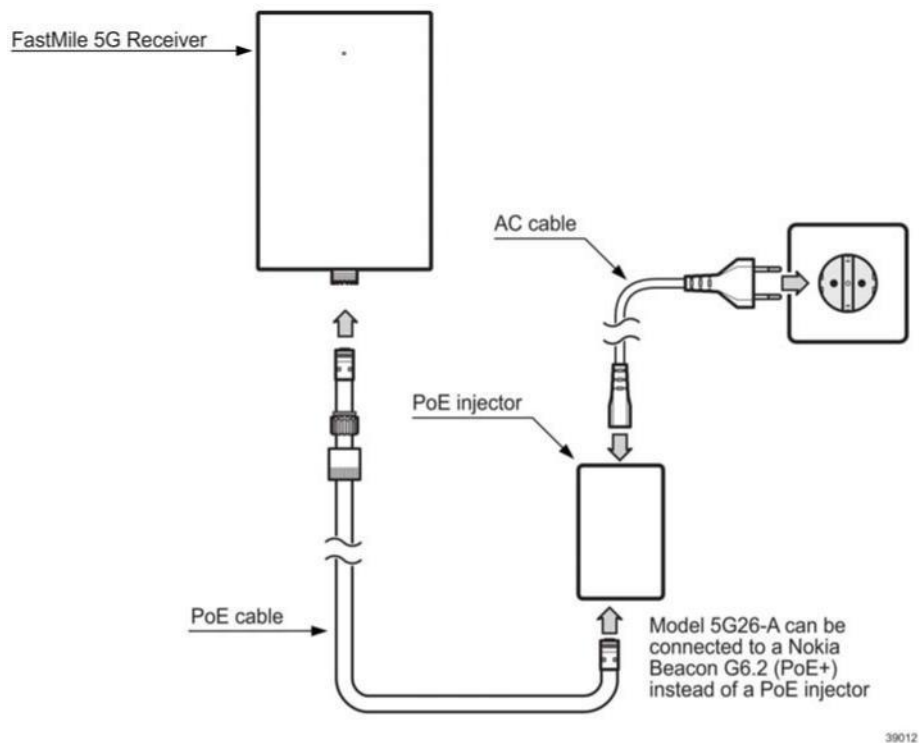

Figure 10 Power connections
- 3** Remove the cover from the FastMile 5G mmWave Receiver, and slide the SIM card into the SIM card slot as shown in Figure 10.